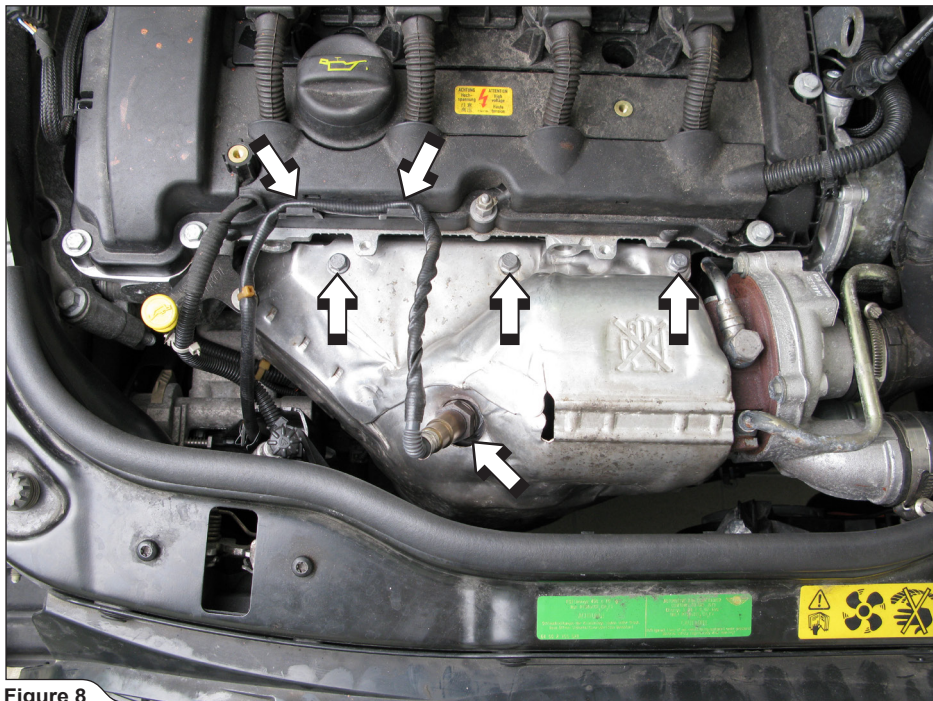

Figure 8
6. **For Optional Down Pipe only:** undo the lambda sensors' electrical lead, unscrew the lambda sensor, unscrew and remove the upper heat shield (**Figure 8**).